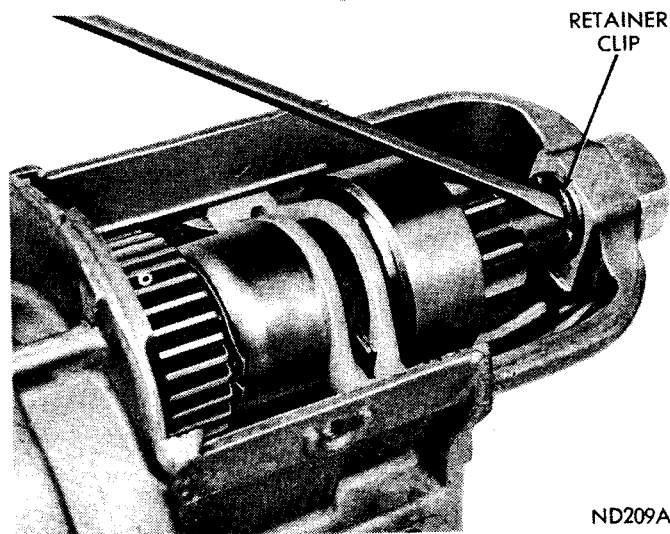

Fig. 16—Removing Pinion Shaft "C" Clip
(17) Remove pinion shaft "C" clip, (Fig. 16).
(7) Install pinion shaft "C" clip, (Fig. 16).
(8) Install starter solenoid return spring into bore of movable core.